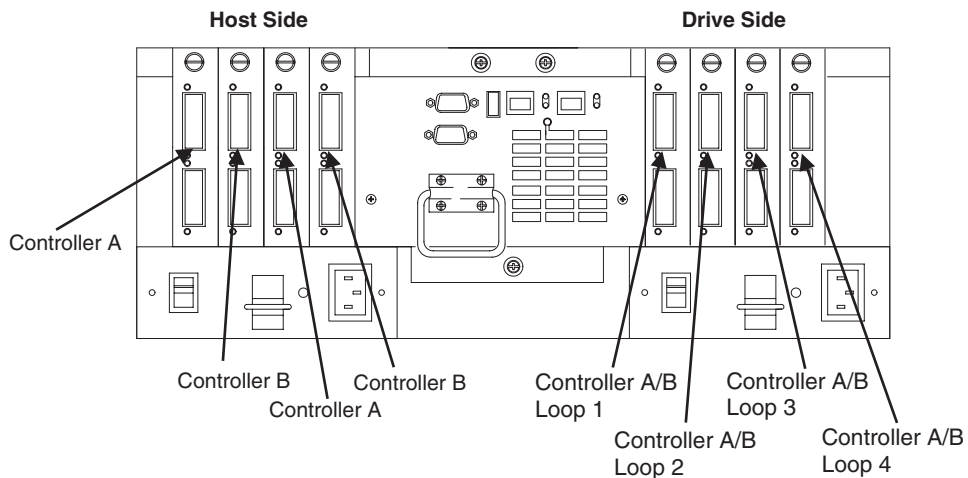

Figure 139. FASt500 controller connection locations
Figure 139 shows the locations of the controller connections in a FASt500 or FASt700 Fibre Channel controller unit.
**Note:** In Figure 139, a FASt500 controller unit is shown.